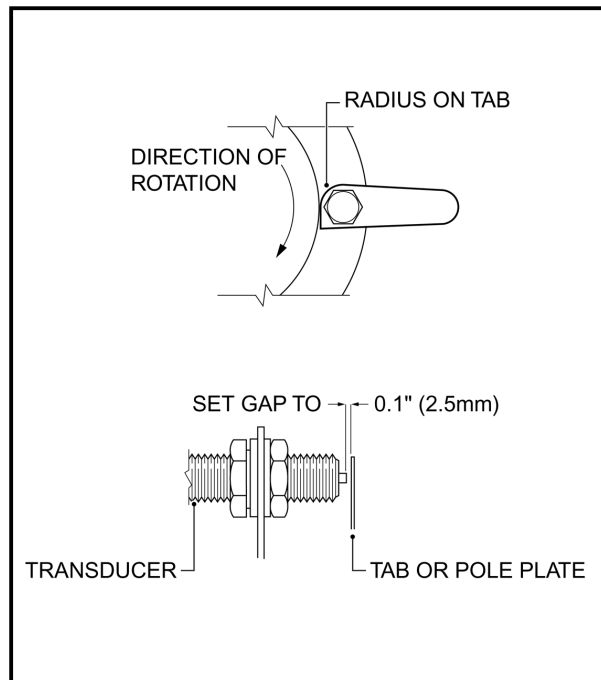

Fig. 8 – Transducer Adjustment
11. Repeat Steps (1) – (10) for all atomisers.
17. Repeat (16) for all other leads. The correct pin numbers are shown in Fig. 8, which shows the view on the rear (cable entry) face of the plug.
23. Select the other atomisers in sequence and repeat step (22) for each.